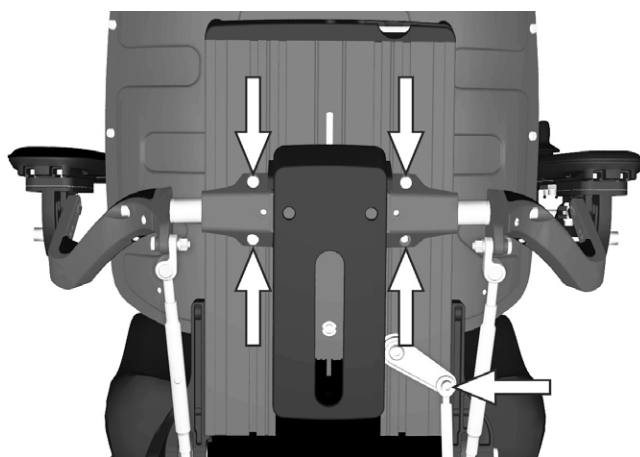

Figure 195. The armrests are held in place by four screws. The joint for the backrest slide function is held in place by one screw.
4. Remove the joint for the backrest slide function, which is held in place by one screw. See fig. 195.
5. Remove the four screws that hold the armrests in place. See fig. 195. Then carefully move the armrests downwards and backwards.